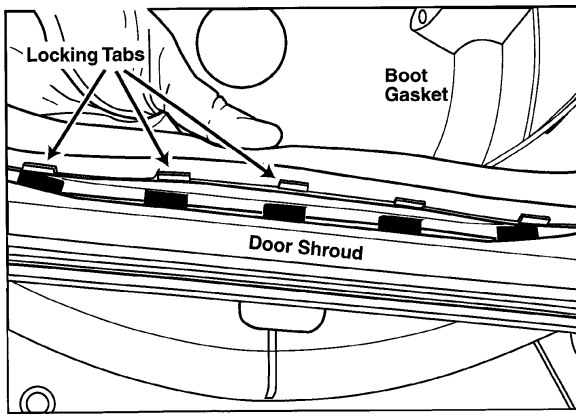

Figure 5-9
2. With the door open, unsnap the boot gasket from around the inside perimeter of the door opening by pulling out on the sealing lip of the gasket (*Figure 5-9*).